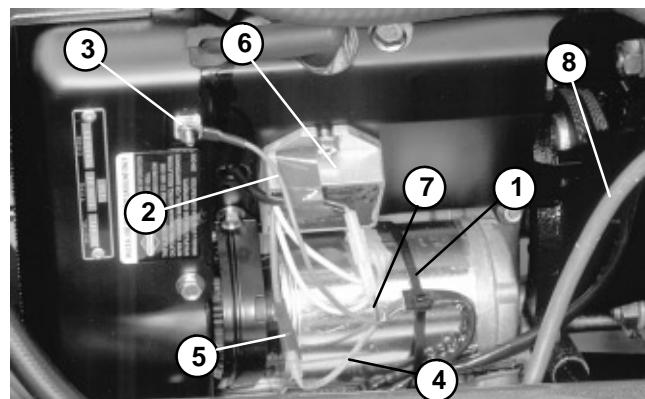
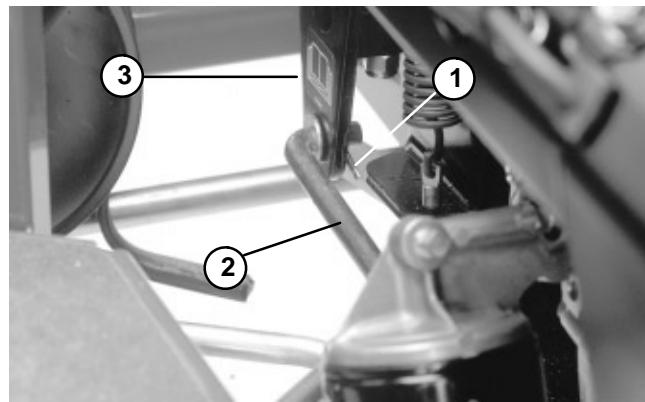

Figure 38
Figure 39
- NOTE:** Do not disconnect brake linkages or remove traverse rod when disconnecting the exhaust tube (17) and muffler (1) from the engine (16).
4. Separate exhaust tube (17) and muffler (1) from the exhaust manifold (see Muffler Removal).
5. Close fuel shutoff located below the fuel tank. Clamp fuel hose (12) near engine (16) to prevent fuel spillage. Loosen hose clamp (28) and remove fuel hose (12) from the engine.
6. Remove cable tie from the starter and wire harness. Disconnect harness as follows (Fig. 38):
7. Remove air hose (33) from air cleaner cover (19).
9. Remove cotter pin from the pump control rod. Separate rod from the pump lever (Fig. 39).
5. Insert end of pump control rod into the pump lever. Secure rod with cotter pin (Fig. 39).
7. Install air hose (33) to air cleaner cover (19). Secure hose with hose clamp (34).
8. Secure fuel hose (12) to the engine (16) with hose clamp (28). Remove clamp used to prevent drainage from fuel hose (12). Open fuel shutoff located below the fuel tank.
10. Connect harness as follows (Fig. 38):